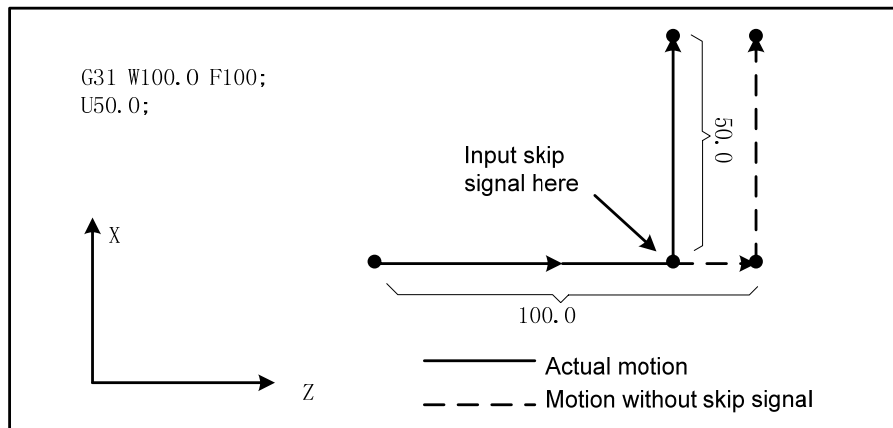

Fig. 3-51
1. The next block of G31 is the incremental coordinate programming shown in Fig. 3-51: